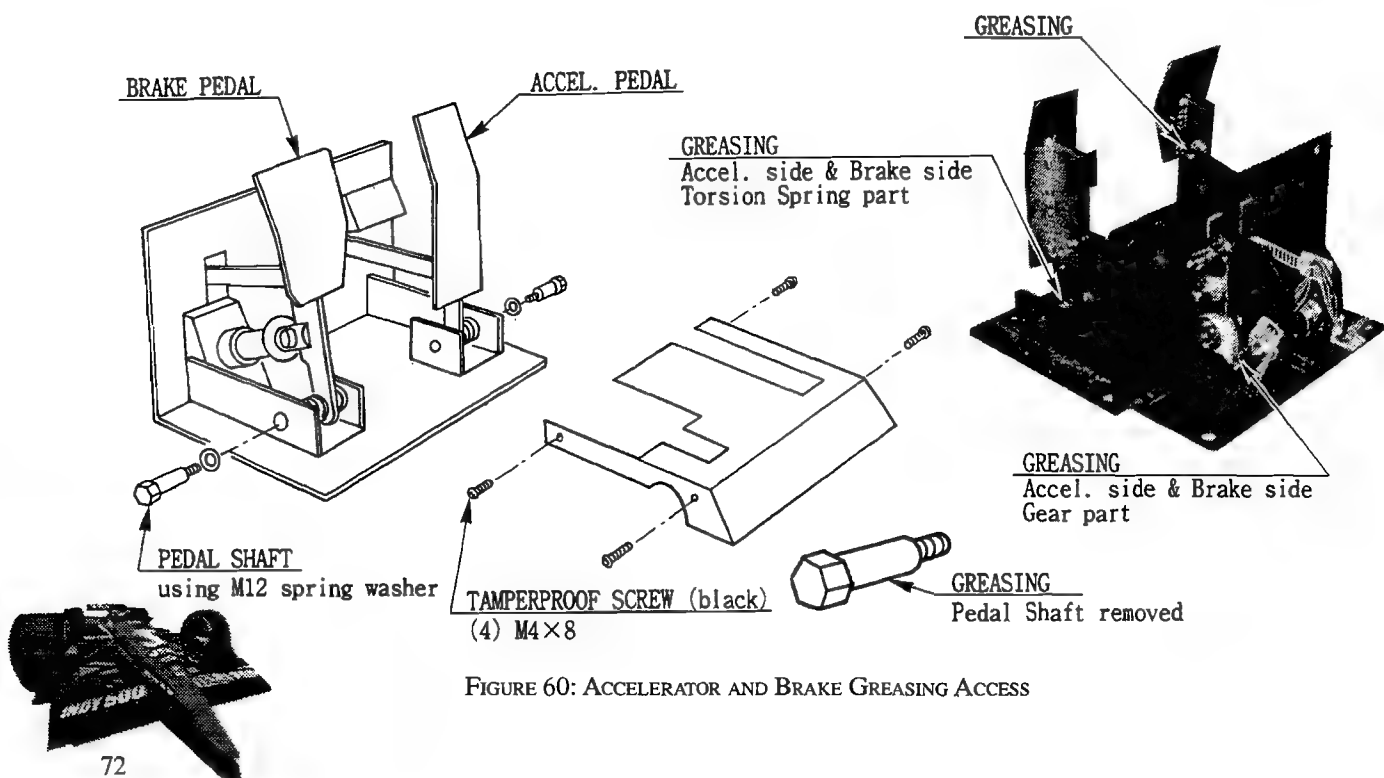

FIGURE 60: ACCELERATOR AND BRAKE GREASING ACCESS
9. Apply grease to the torsion spring, the pedal shaft, and the pedal bolt on both the accelerator and brake sides (see Figure 60).